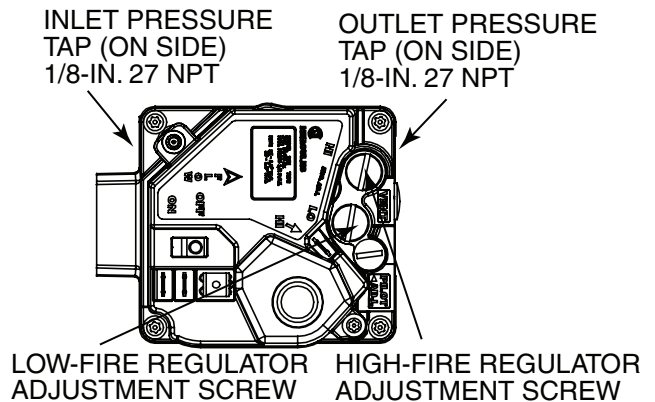

Fig. 50 — Gas Valve
6. Remove screw cap covering regulator adjustment screw (see Fig. 50).